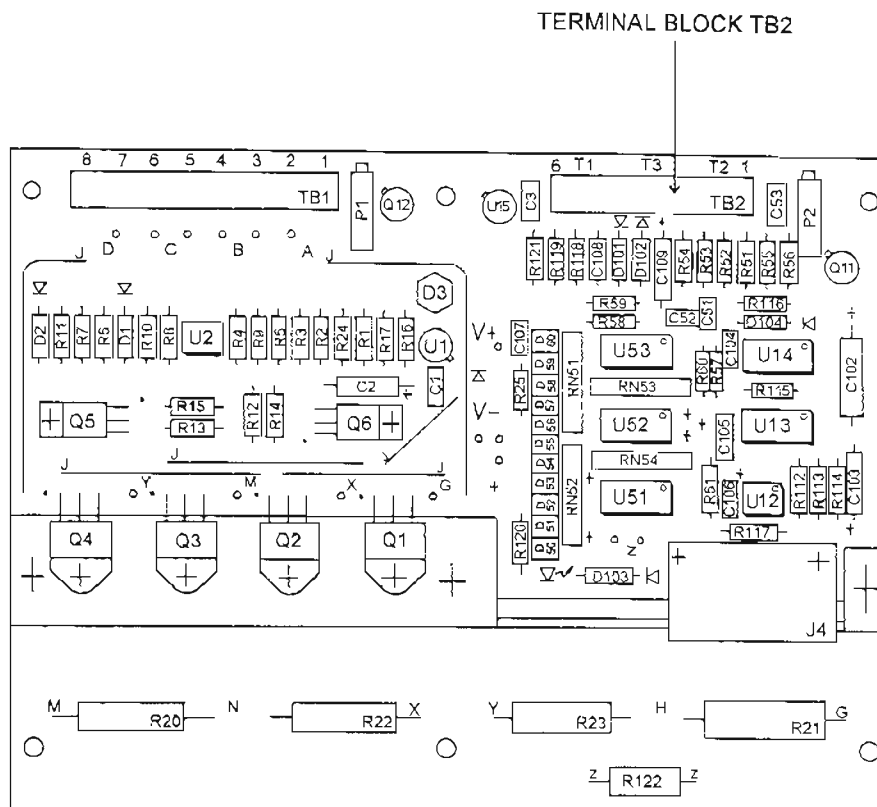

Figure 3-21. Terminal block TB2.
- (2) Carefully pull the panel back by 1/2 inch, to expose TB2 (fig 3-21).
- (3) Disconnect wires T1 from TB2 and check resistance. Meter should read 10K ohms at 77°F (25°C).
- (2) Carefully pull the control panel back by 1/2 inch, to expose the TB2 (fig 3-21).
- (3) Disconnect wire T2 and TB2 and check resistance. Meter should read 10K ohms at 77°F (25°C).
- (2) Carefully pull the control panel by 1/2 inch, to expose the TB2 (fig 3-21).
- (3) Disconnect wire T3 from TB2 and check resistance. Meter should read 3K ohms at 77°F (25°C).